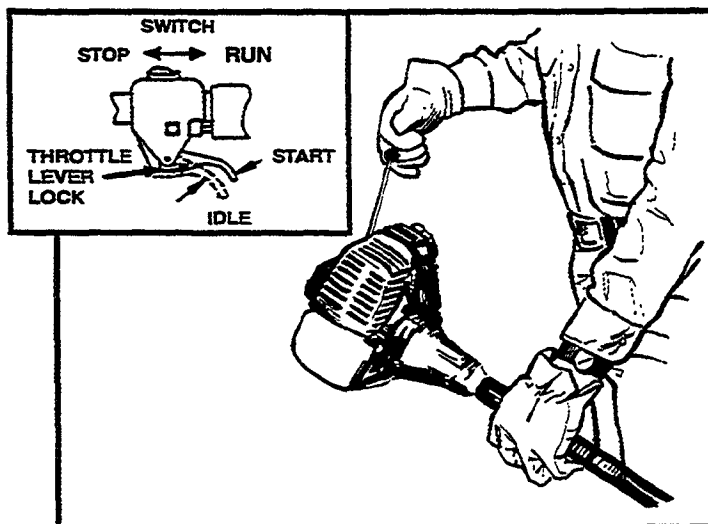

Figure 9
- Lock throttle lever in the start position as shown in (Figure 9).
- Pull starter rope slowly, until engine compression is felt (Figure 9). Pull the starter in short rapid strokes until engine starts.